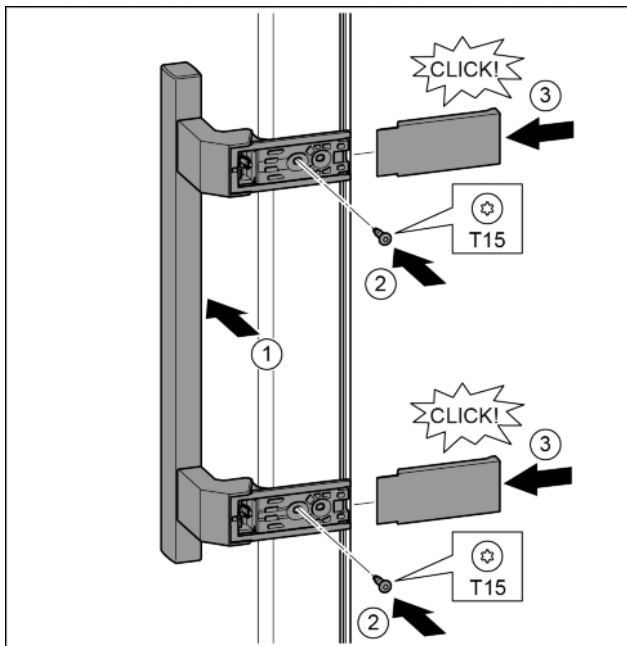

Fig. 20
- Position the handle on the other side. Fig. 20 (1)
- Tighten the screws with the T15 screwdriver. Fig. 20 (2)
- Position the covers on the side and push in. Fig. 20 (3)